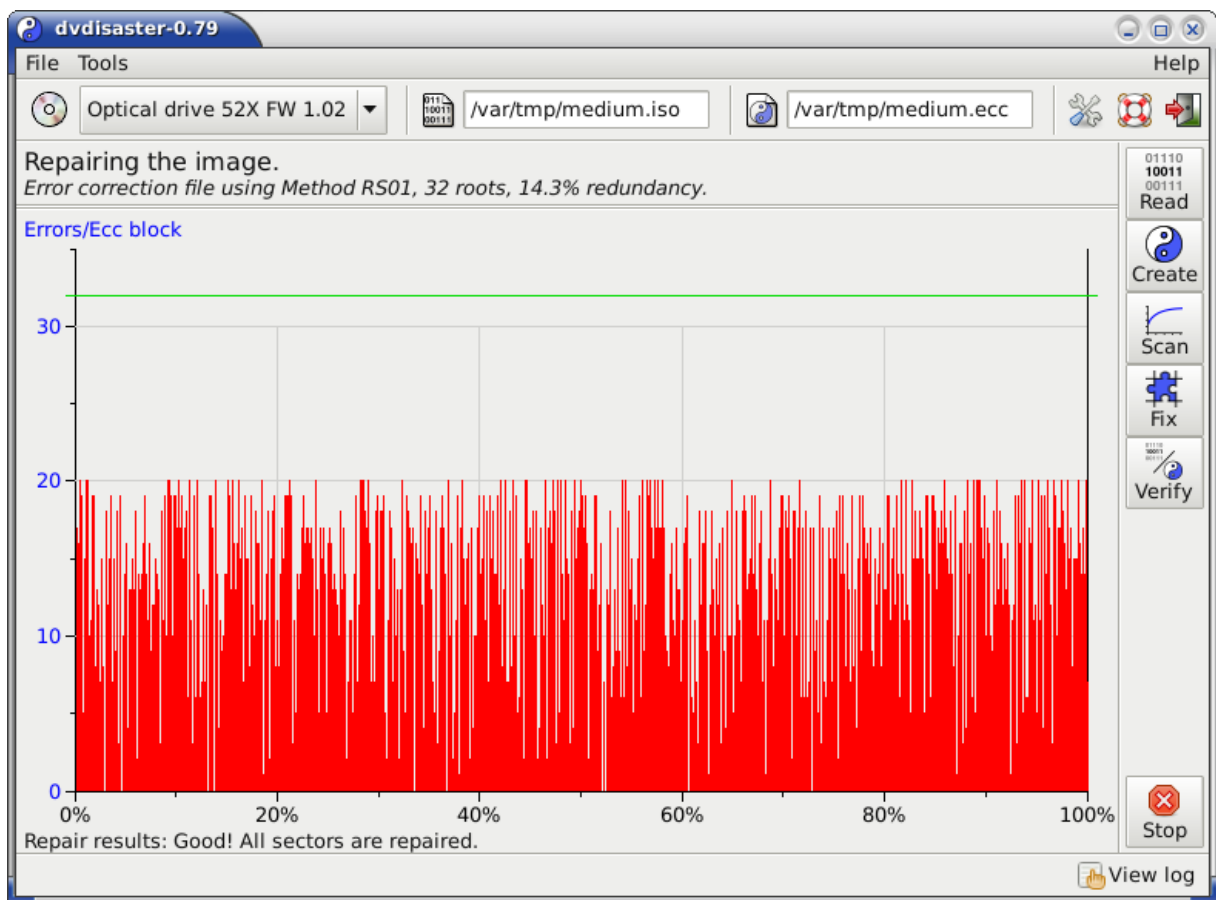

Figure 2: Repairing the defective image.
**Repairing the defective image.** The image which has been just read is incomplete since about 23.600 sectors could not be read. These sectors are now reconstructed using the error correction data created with dvdisaster. During the recovery a maximum of 20 errors per error correction block is encountered (see figure 2). This results in a peak error correction load of 63%, meaning that this degree of damage is handled well by error correction data created with default settings. The recovered image can now be written to a new medium.